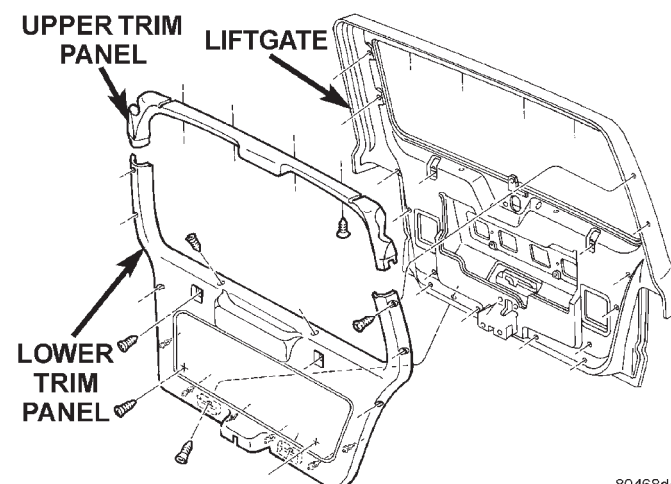

Fig. 10 Liftgate Trim Panel Remove/Install
(1) Disconnect and isolate the battery negative cable.
(2) Remove the screws securing the liftgate lower trim panel to the liftgate (Fig. 10).